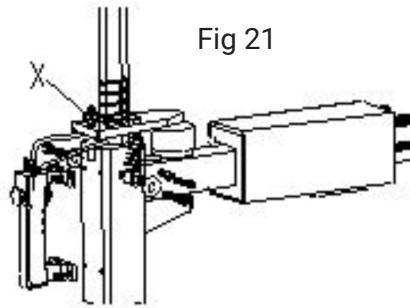

Fig 21
Note! If the vertical arm is not locked or does not meet the 2-3 mm requirement from the bottom of the mounting / disassembly head to the rim, adjust the hexagonal locking plate, (Fig. 21) and adjust (X).